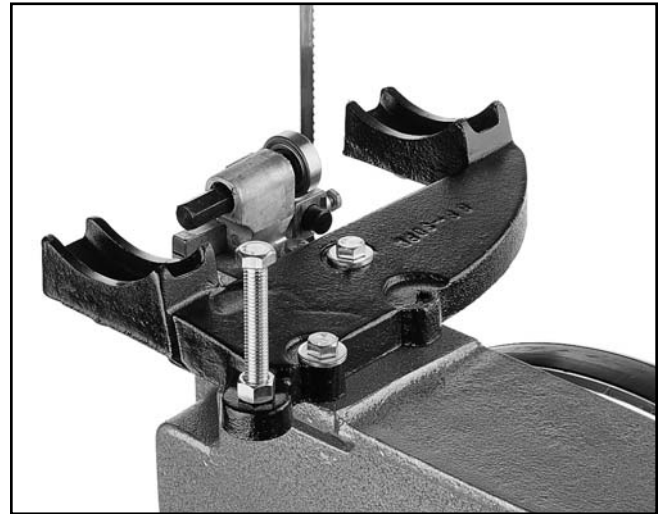

Figure 9. Stop bolt assembled on bracket.
3. Thread the locknut onto the table stop bolt and thread the bolt into the table support bracket. **See Figure 9.** Bolt adjustments are covered in the "Table Adjustments" section beginning on page 18.